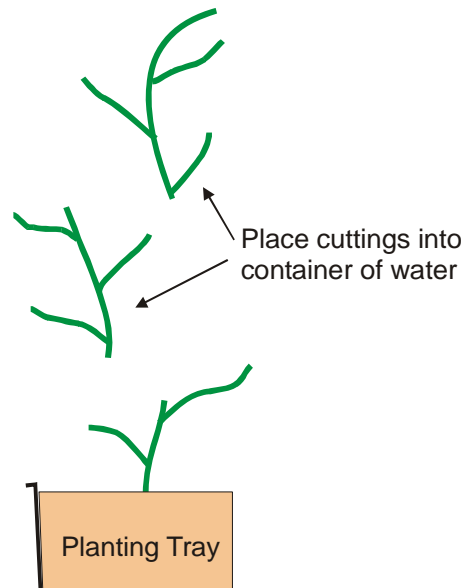

Fig. 5 - Micro-propagating sago pondweed
1. When most of the plants in the parent tray have 8 leaves, it will be micro-propagation time. It will take several weeks for the plants to be large enough to micro-propagate. Lift each adult plant from the parent tray one at a time (without pulling the plants out of the sediment), holding them upright from the top of the central stem, and cut into segments of three leaves. Make sure to make the cut from the bottom and just above the leaf (node). Leave two leaves (nodes) on the rooted parent plant (Fig. 5).